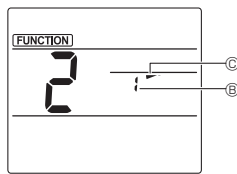

Fig. 5-2
- In the Function setting screen, press the **DOWN** button ④ and select function No. "2".
- Press the **SET** button ③.
- The vane number ② blinks. (Fig. 5-2)
- Press the **DOWN** button ④ to select the vane number.
- The airflow direction setting ① blinks. (Fig. 5-2)
- Press the **DOWN** button ④ to select the airflow direction at which you want to fix the vane.